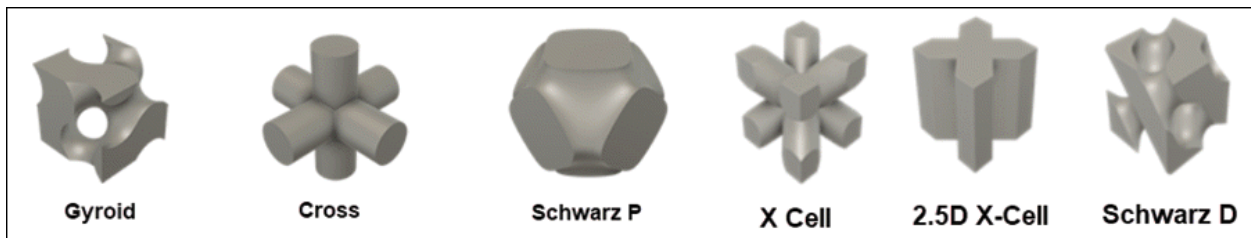

Figure-76. Cell shapes
- Select desired shape of lattice element from the **Cell Shape** drop-down; refer to Figure-76.